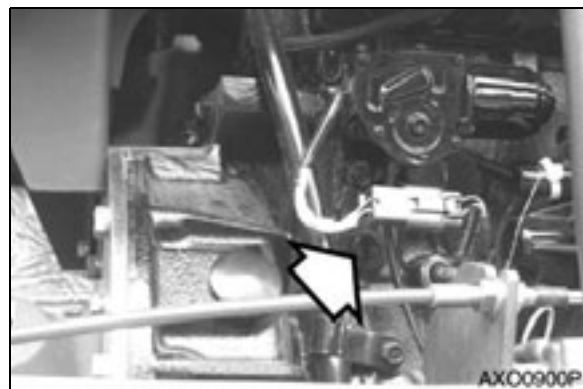

Figure 78
3. Remove engine block drain plug (Figure 78) to drain engine block.